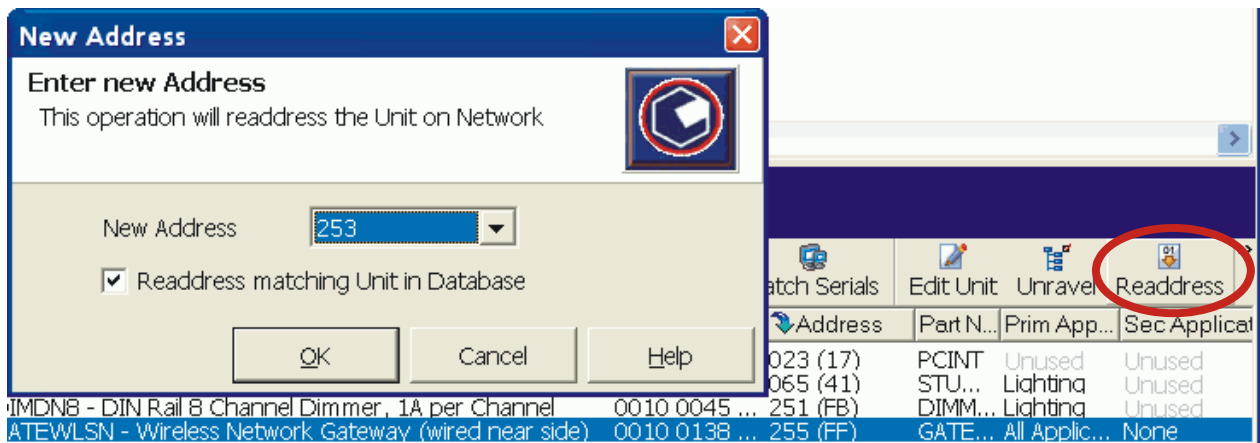

Figure 1 – If necessary, use the Readdress function to change the unit address to something appropriate
- 6) The function you will use in the Step 7 creates a new network using the same address value as the gateway's unit address. If necessary, use the Readdress function to change the unit address of the gateway to something more appropriate. Its value should not be 255, and must not have the same value as an existing network address. For example if you have a single local network with a network address of 254 (the default), ensure the gateway unit address is not set to 254. Refer to Figure 1.